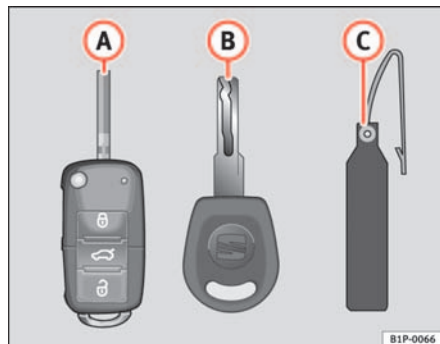

Fig. 63 Set of keys
- one remote control key ⇒ fig. 63 **A** with folding key bit,
Spare keys cannot be issued without the key number on the key tab ⇒ fig. 63 **B**. Therefore:
- Use both keys that have been delivered with the vehicle ⇒ page 98, fig. 63, the key fitted with the remote control  and the normal key .